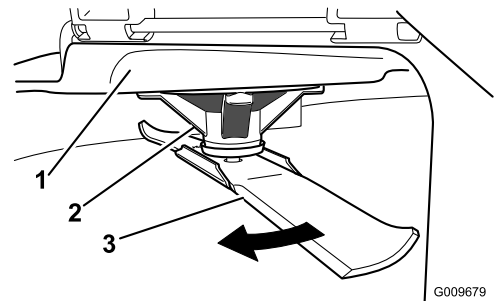

Figure 55
2. While wearing thickly-padded gloves, or other adequate hand protection, slowly rotate the blade to be measure into a position that allows effective measurement of the distance between the cutting edge and the level surface the machine is on (Figure 55).